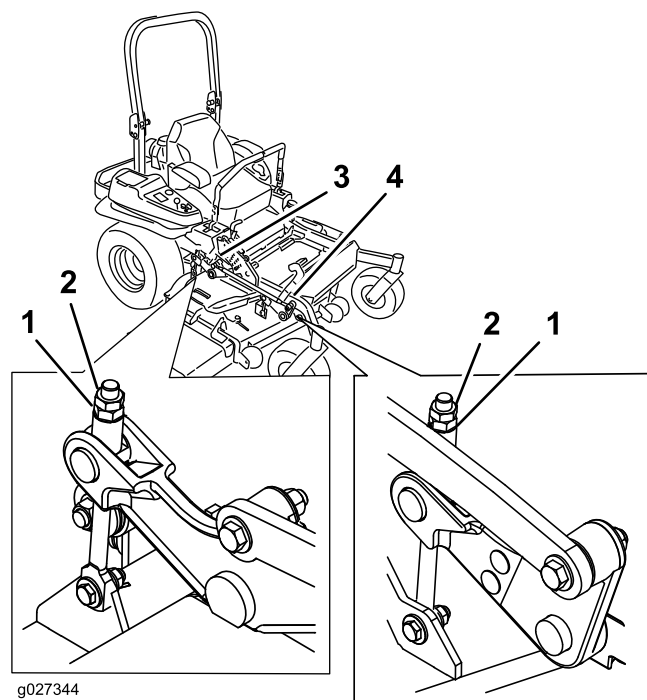
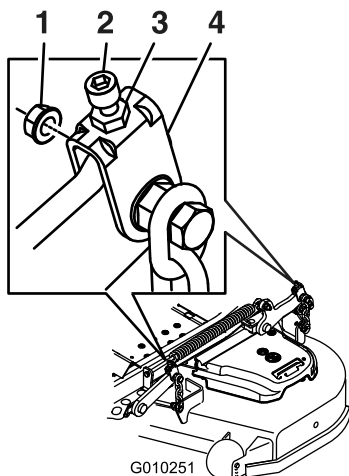

Figure 115
Figure 114
10. Fine-tune the adjustment nut on the front deck-lift assembly by turning it (Figure 114 or Figure 115).
16. Fine tune the screw adjuster by turning it to get 8.3 mm (3-1/4 inches) height (Figure 115).